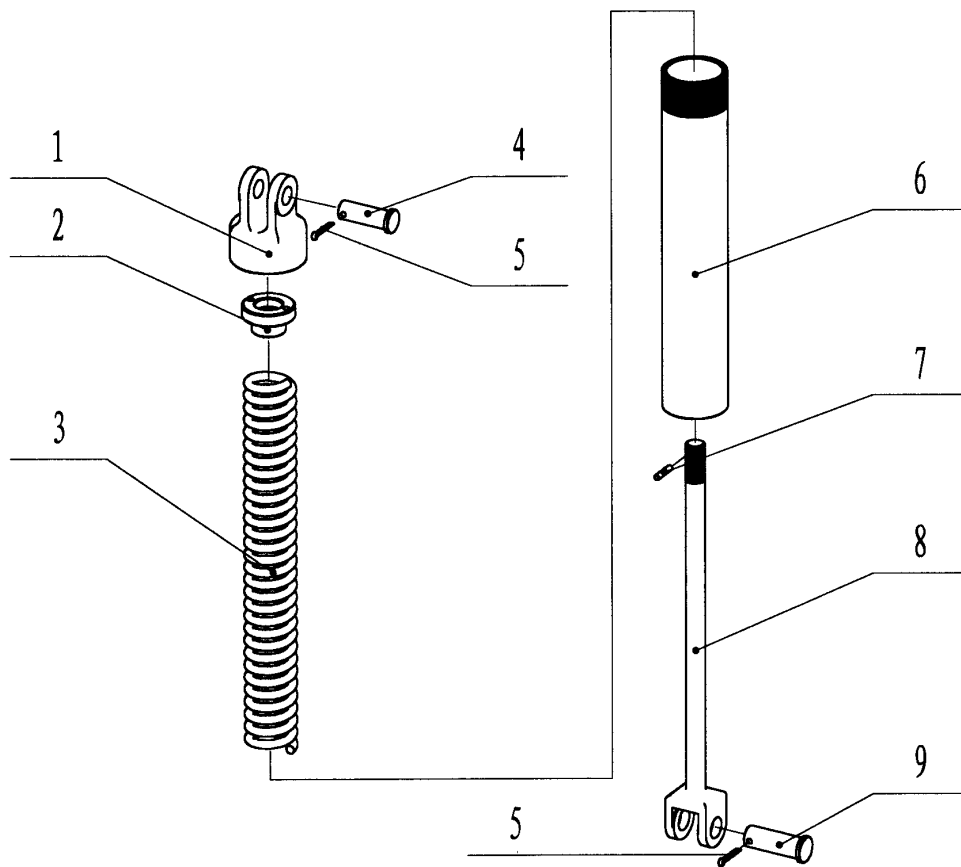

Fig 12
9.4 Mechanical lift (Fig 12, Table 12)